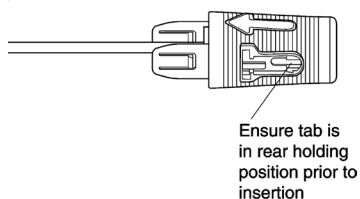

**Fig. 5**
- b) if necessary, rotate the insertion sheath so that the reference indicator on the insertion sheath cap is facing up (Figure 5).